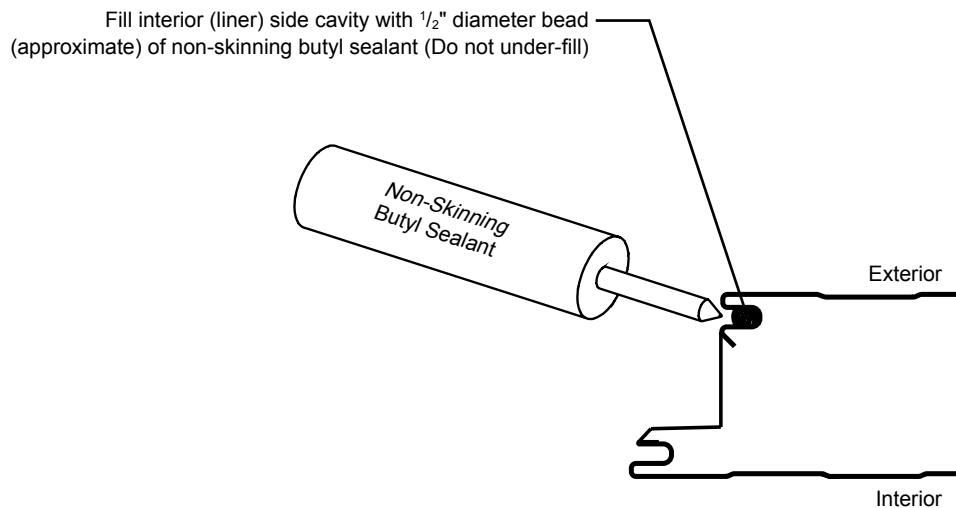

Figure 5
13.1 Apply caulking to panel joinery as shown on the shop drawing details to provide a barrier against vapor and air infiltration. Caulking is best applied while panels are lying flat. Apply beads of caulk immediately prior to engaging panels (see figure 5, below).